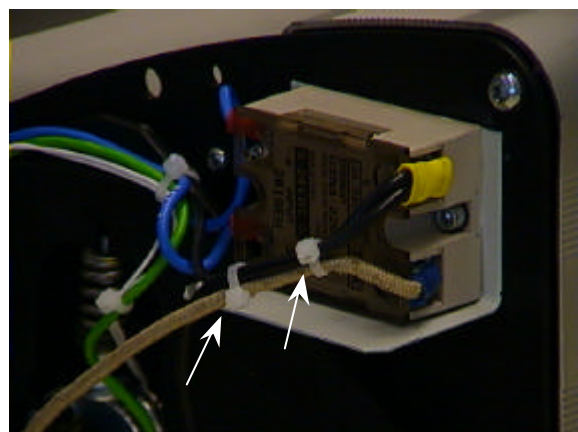

fig. 16
3. Cut, at the right hand side of the machine, the two tie-wraps, that hold the wire of the heating element to the other two (black) wires. See figure 16.